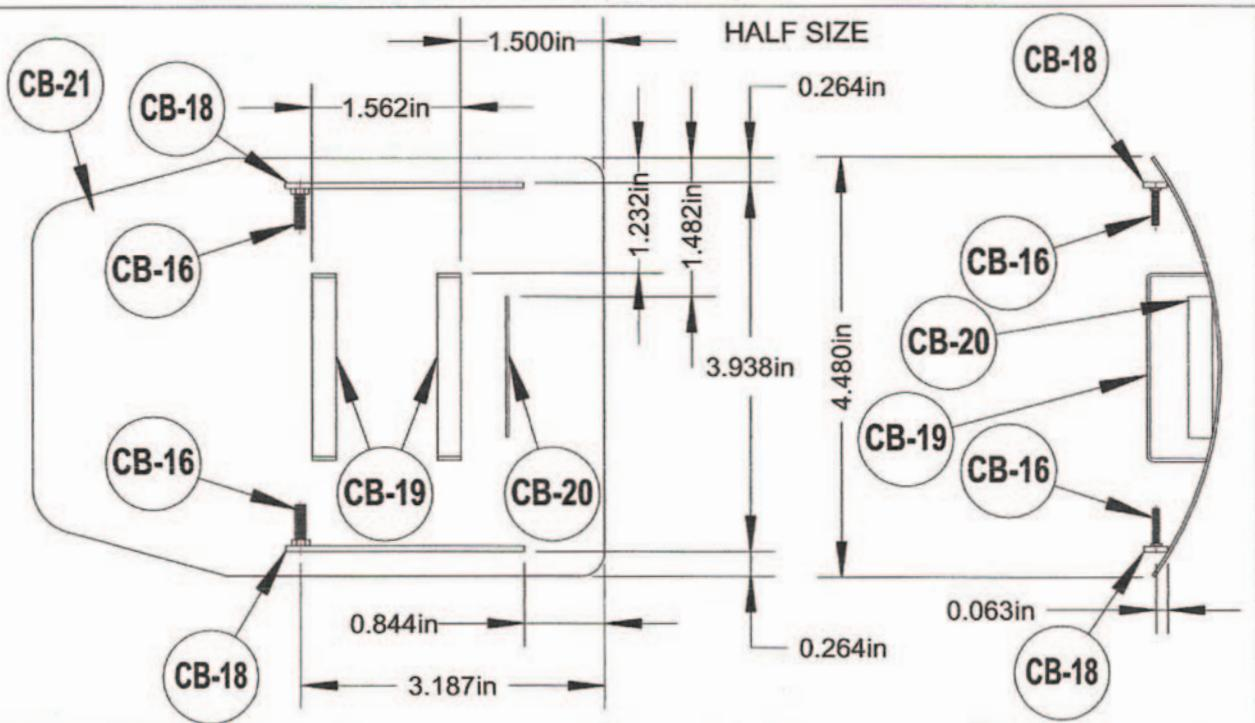
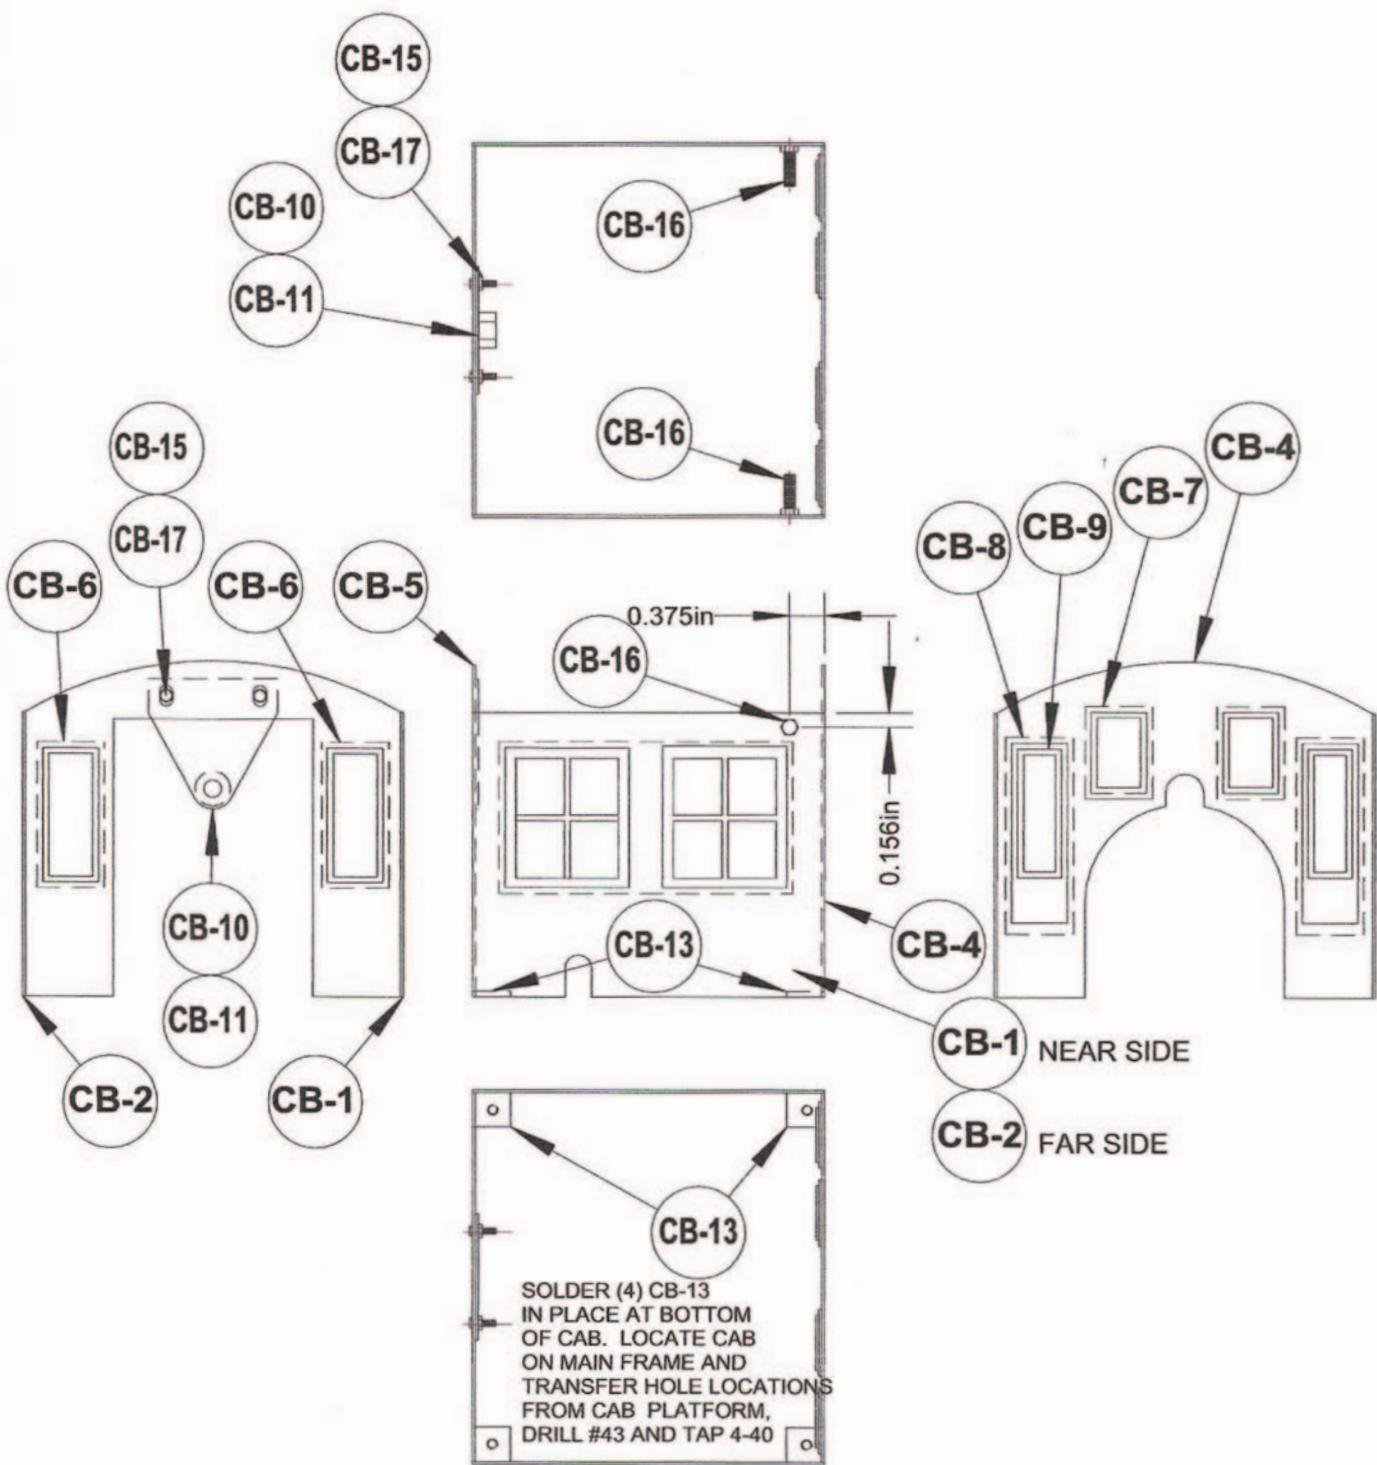
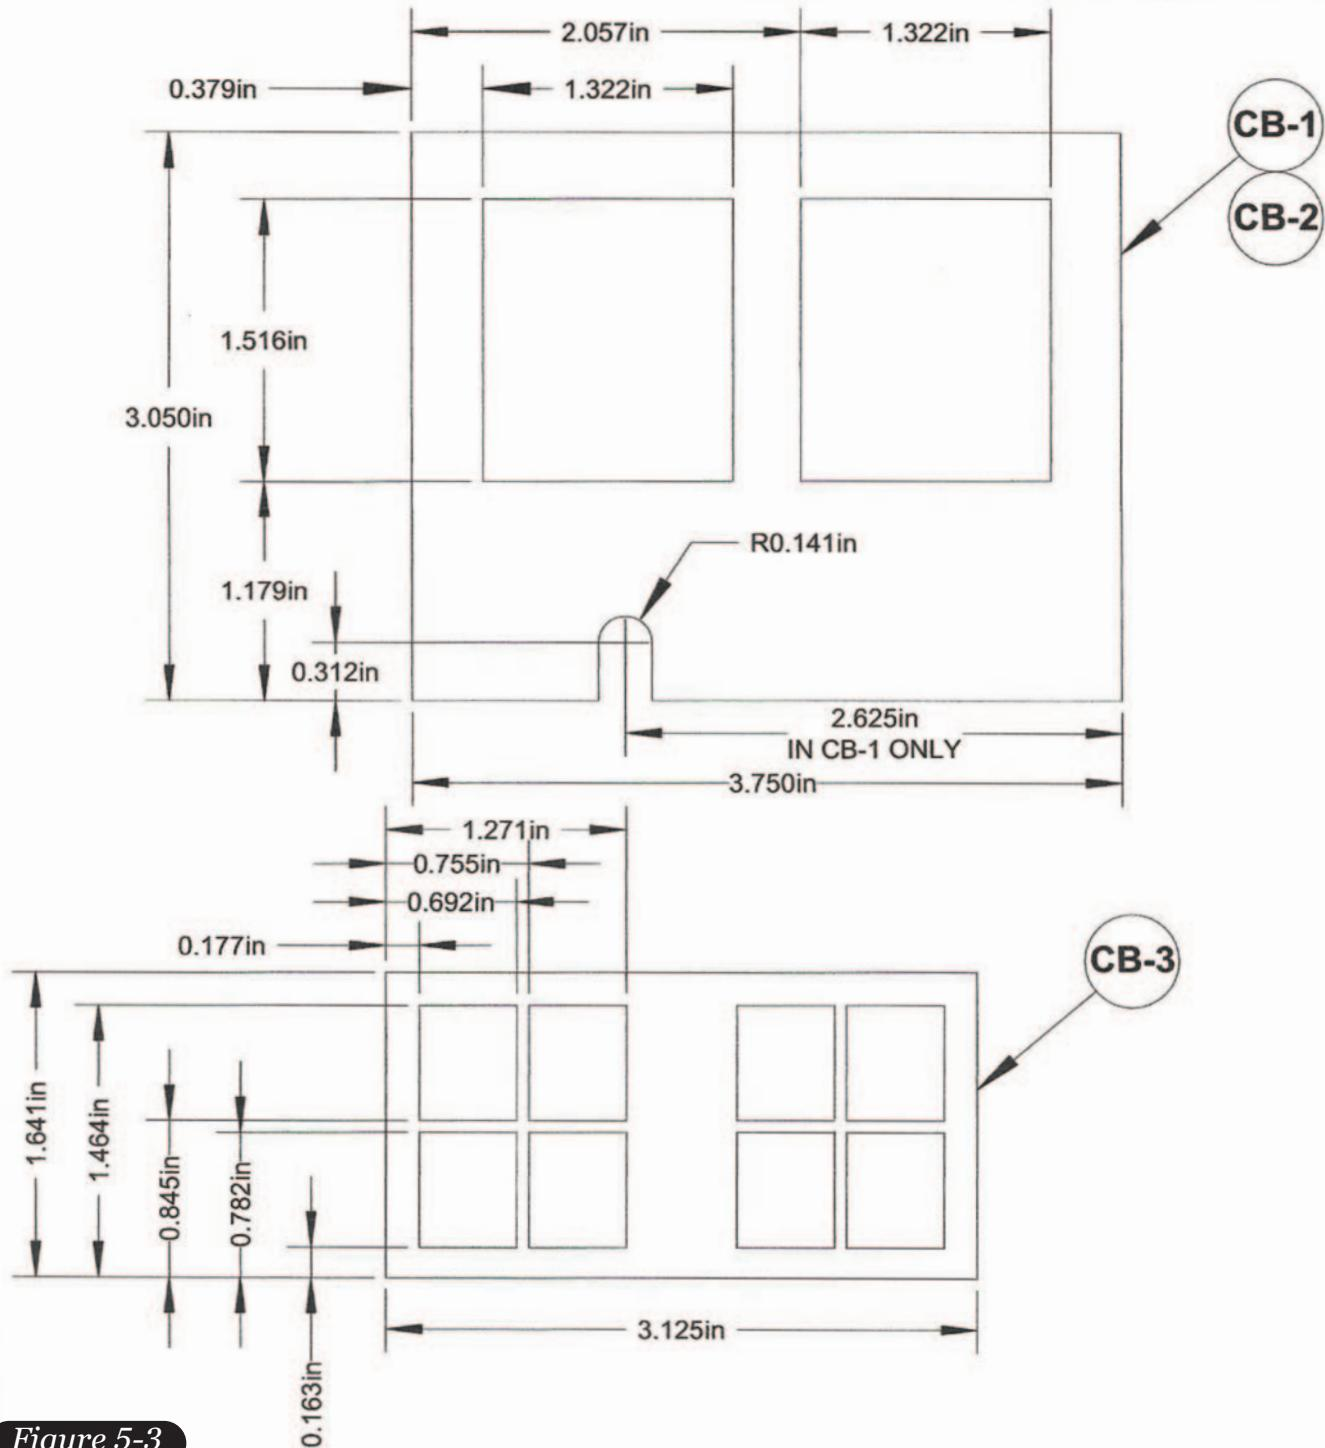

Figure 5-1
Figure 5-2
Figure 5-3
**Figure 5-1** contains two assembly drawings, the Final Assembly of the Cab and the Roof Assembly. The upper portion of the page contains the Final Assembly which brings together all the sub-assemblies and additional loose parts, and describes the mounting of the cab onto the lower works. The lower portion of the page contains the Roof (sub) Assembly which is a soldered assembly of the roof components. **Figure 5-2** contains the Cab Body (sub) Assembly, which is also a soldered assembly, and contains the majority of the fabricated parts.
The cab body is fabricated first. Using the Cab Body Assembly in **Figure 5-2** as a guide, this is done by fabricating the side and end panels and then soldering them together to form the cab body (**Figure 5-3**). The body is then completed by adding the brass screws which will be used for the compound hinge cab roof.
All four cab panels, CB-1-2-4 and 5, shown in Figures 5-3 through 5-5, all have multi-layer windows, and the front panel CB-4 has doors two panels deep consisting of CB-8 and CB-9 (**Figure 5-6**). A bit of extra work, but it really looks great when it is completed. **Photos 5-3** and **5-4** show the door panels being set up and soldered.
When the four panels are completed, carefully solder them together to make the cab body as shown in **Figure 5-1**. All four panels should have their bottom edges line up, NOT the tops. The sides are cut just slightly short of the straight vertical lengths of the ends for clearance of the rounded cab roof. The cab sides are located on the OUTSIDE, and the ends on the INSIDE. This may be a bit difficult to see in the drawings, so it is mentioned here.
The Cab Final Assembly in **Figure 5-1** brings all the assemblies together and mounts the cab onto the lower works. Four hinge tubes CB-14 are slipped over the pivot screws CB-16 (shown in the cab body and cab roof assemblies). The hinge arms CB-12 are assembled over the tubes and kept in place by 4-40 nuts CB-17. This final assembly is shown in **Photo 5-8**. **Figure 5-1** shows the cab roof partially lifted away both to reveal the component